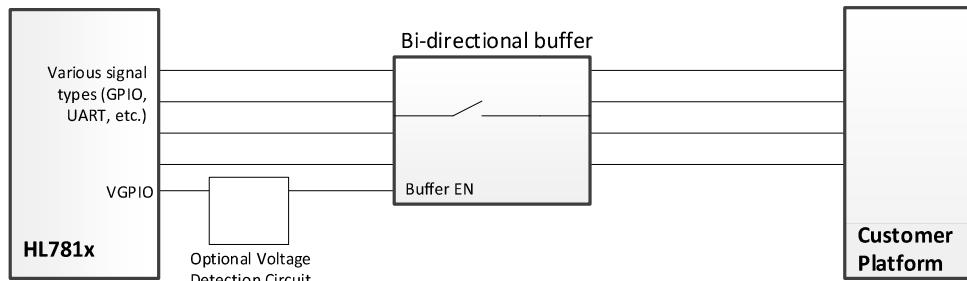
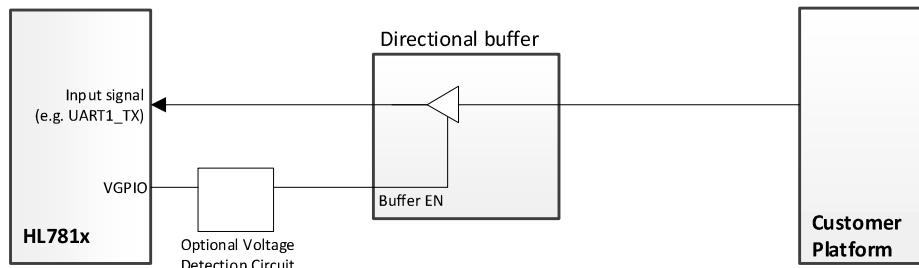

Figure 6-3: Example-Buffer - Bidirectional Signal
Figure 6-4: Example-Buffer - Directional Signal
- Bidirectional (Input/Output) signals— For module I/O signals (e.g. GPIOs), an analog switch that can tri-state both the output and the input can be used (e.g. Texas Instruments TMUX1511). As shown in Figure 6-3, I/O signals connected to the buffer will be tri-stated.
- Directional (Input) signals— For module inputs (e.g. UART1_TX), a logic buffer with output tri-state mode can be used (e.g. Texas Instruments SN74LVC1G126). As shown in Figure 6-4, the signal is controlled and, when disabled, the output signal is tri-stated.
To ensure faster detection of VGPIo transitions, Semtech recommends adding an optional voltage detection circuit (as shown in Figure 6-3 and Figure 6-4) to monitor and detect the transition low, and then control (enable/disable) the associated buffer circuit.